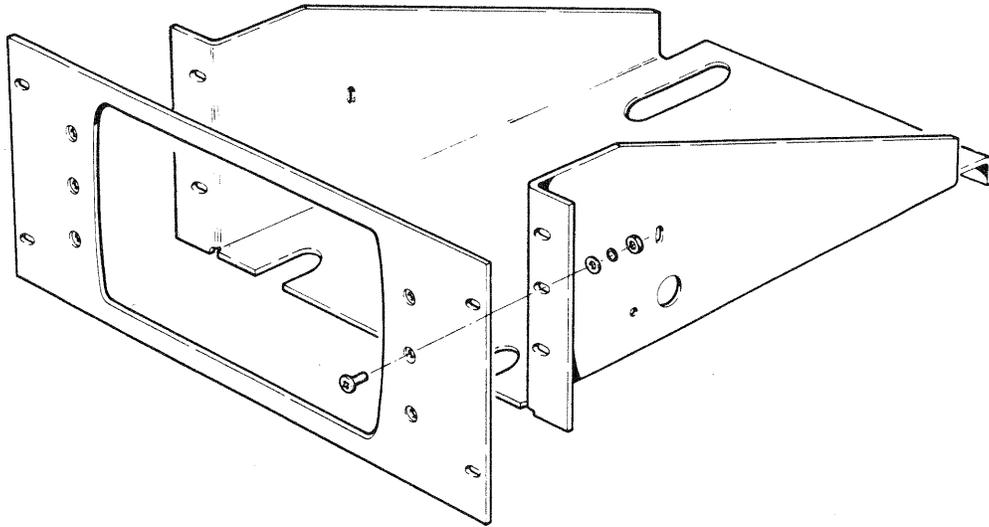

Figure 2 Rack Mount Hardware
5. Re-locate the gear hubs (MP2) -- without screws -- to their original locations. (These parts act as spacers between the instrument frame and the rack tray shown in Figure 2.)